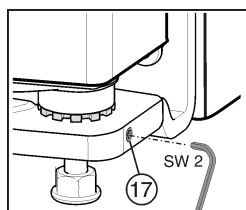

Fig. 29
- ▶ Unscrew the threaded pin *Fig. 29 (17)* a little (no more than one turn).
- ▶ Screw the threaded pin *Fig. 29 (17)* in again to fix the bearing pin.